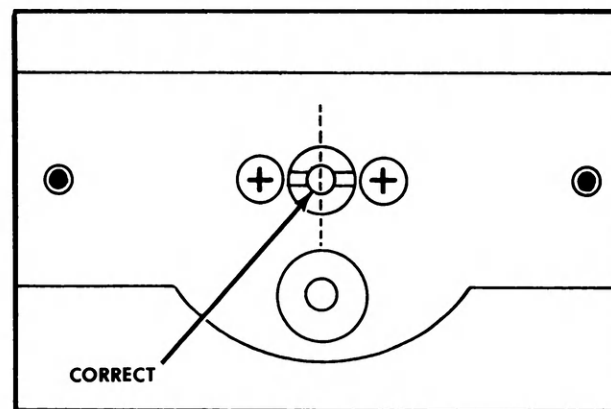

Figure 5-13. Brush Alignment
5. Replace the two screws above the capstan and tighten them securely while observing the placement of the brush block in relation to the slip ring. The slip ring should be centered within the opening (Figure 5-13).